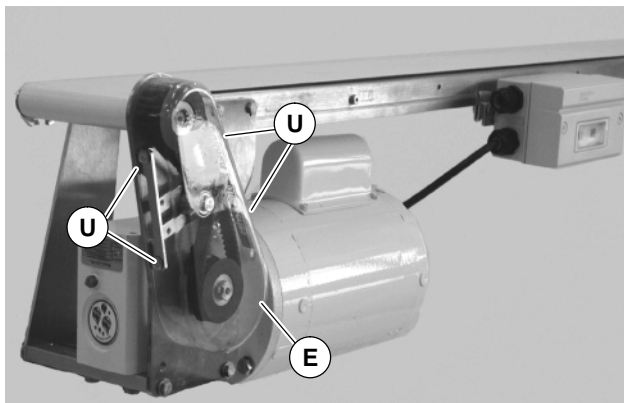

Figure 33
11. Attach cover (E of Figure 33) with screws (U). Tighten screws to 4Nm.